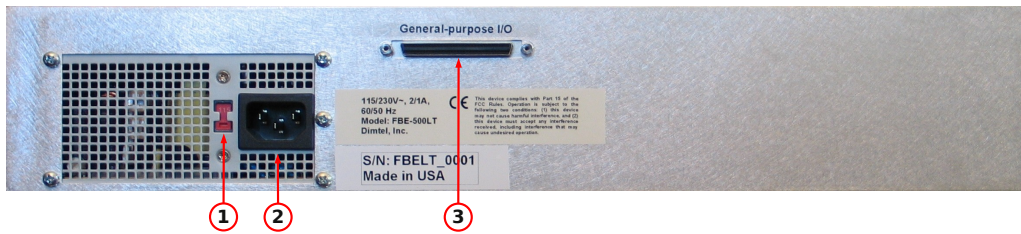

Figure 3: Rear panel features
WARNING: Before connecting power to the unit make sure the voltage selection switch (Fig. 3, item 1) is in the correct position (115 or 230 V).
1. Configure voltage selection switch (Fig. 3, item 1). Mains supply requirements for the FBE-500LT/1000 are listed in Table 4;
9. Using the supplied 68-pin GPIO cable connect the iGp/iGp12 interface (Fig. 3, item 3) to the GPIO connector on the iGp/iGp12;